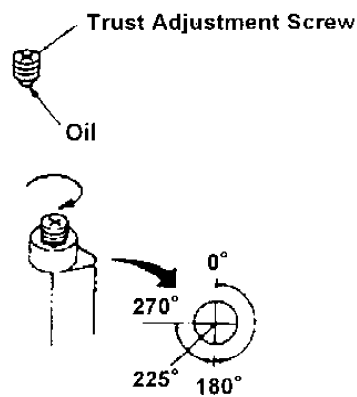

Fig.6-24-2 Adjustment of Thrust Adjustment Screw
5. Turn the Trust Adjustment Screw an another angle of 270° from 180°(about 225°) clockwise as shown in Fig. 6-24-2.